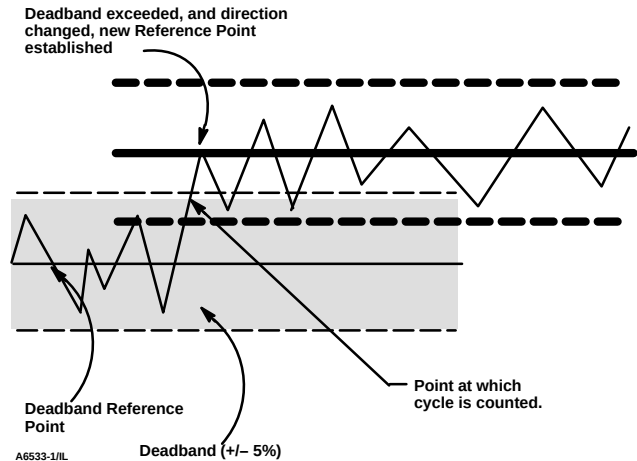

Figure 4-3. Cycle Counter Deadband (set at 10%)
- **Cycle Counter**—Records the number of times the travel changes direction. The change in direction must occur after the deadband has been exceeded before it can be counted as a cycle. See figure 4-3. You can reset the Cycle Counter by configuring it as zero.
Cycle Counter Deadband is the area around the travel reference point, in percent (%) of ranged travel, that was established at the last increment of the Cycle Counter. This area must be exceeded before a change in travel direction can be counted as a cycle. See figure 4-3.